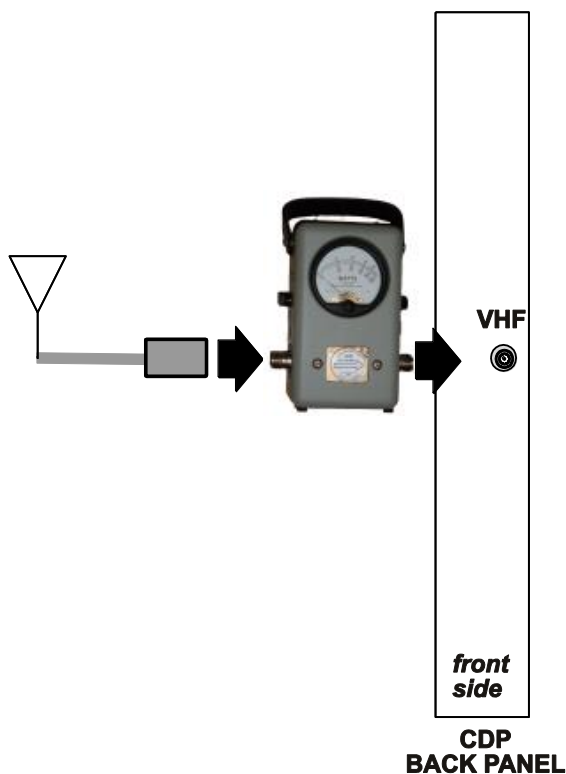

Figure 8. Insert Power Meter Between Antenna Cable and CDP Back Panel VHF Connector
2. Connect the power meter between the RG58 connector on the front end of the CDP rear panel and terminate with the antenna or a dummy load. See Figure 8.